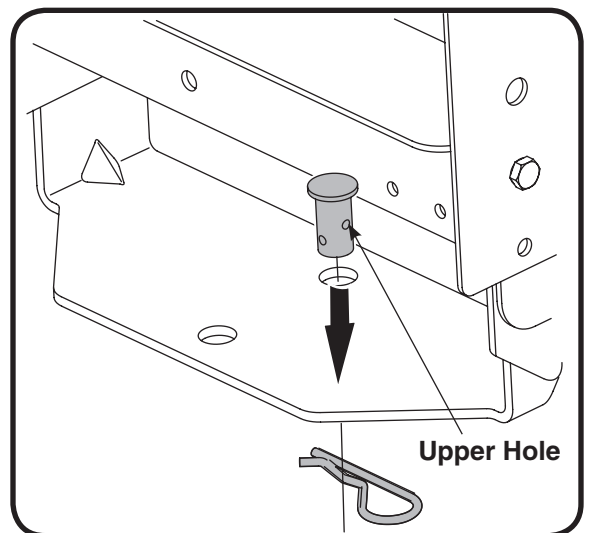

Figure 3-4
5. Insert the clevis pin through the aligned holes in both the bracket assembly and the hitch plate and secure with the hairpin clip. Refer to Figure 3-4.